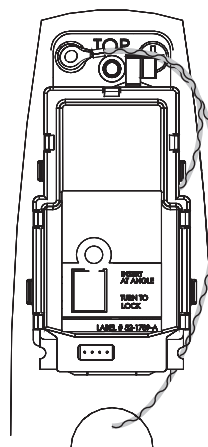

Fig. 10c
- d. Position green/yellow reader harness earth ground on top of ground ring and thread both with (1) 8-32 x 3/8" Phillips flat head undercut combo screw (Fig. 10c).